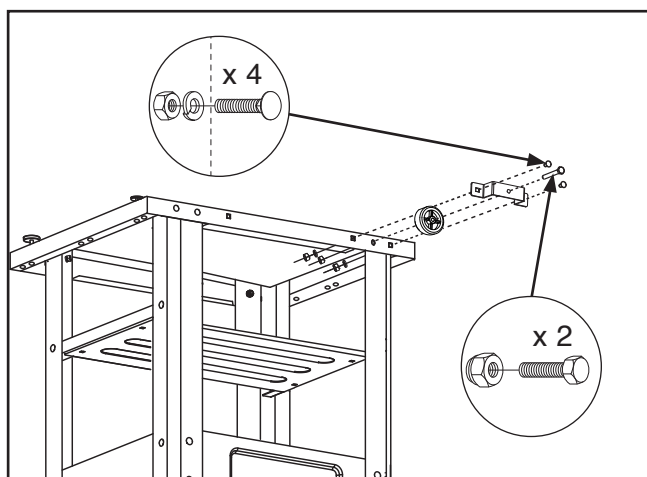

Figure 8. Installing wheels and wheel brackets.
8. Install (2) wheel brackets (see **Figure 8**) on either side of long rails with (4) M8-1.25 x 20 carriage bolts, (4) 8mm lock washers, and (4) M8-1.25 hex nuts.
9. Install (2) wheels (see **Figure 8**) in wheel brackets with (2) M8-1.25 x 60 hex bolts and (2) M8-1.25 lock nuts.